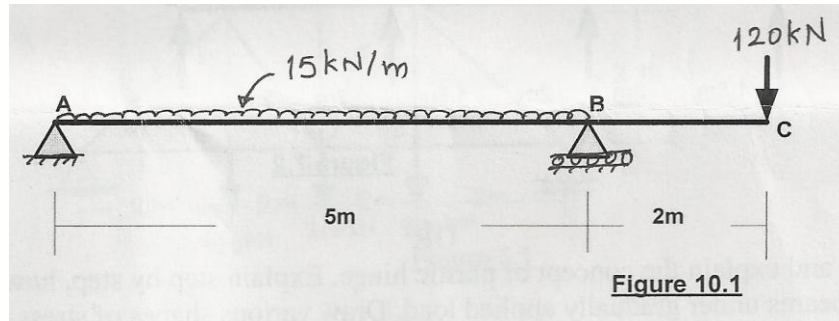

Figure 10.1
Q. No. 10: a) Using influence lines, obtain then reactions at support A and B for the beam shown in Figure 10.1. (8)